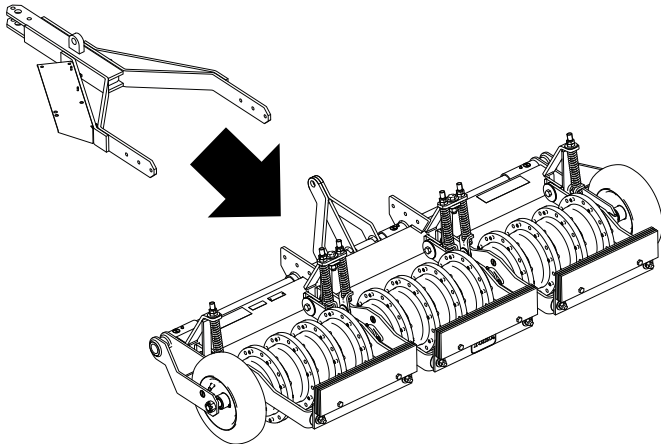

Figure 5
2. Align the tongue assembly with the aerator as shown in Figure 5.